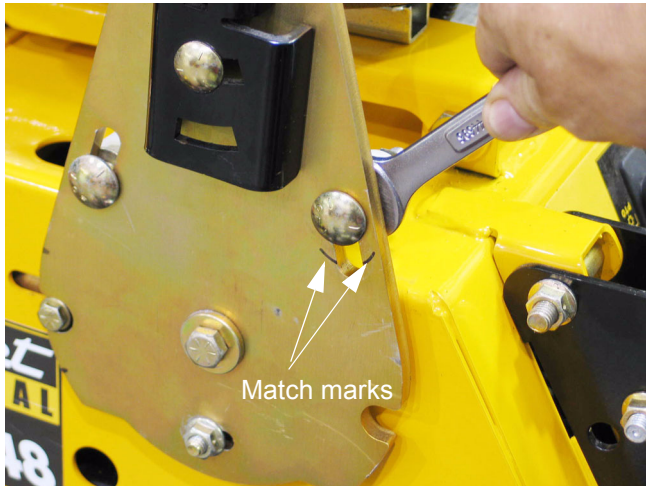

Figure 24.20
24.20. Match-mark, then loosen the roller used to make high-speed tracking adjustments using a 9/16" wrench. Lift it up to allow full forward motion, then snug-down the jam nut that locks the adjustment. See Figure 24.20.